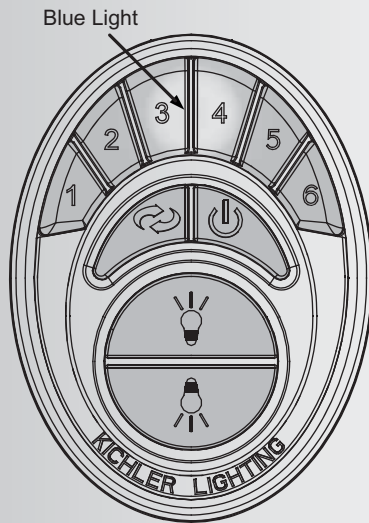

Fig. 20
4. Turn the power on, press and hold the (⏻) button until the ceiling fan light blinks twice (Figure 20)